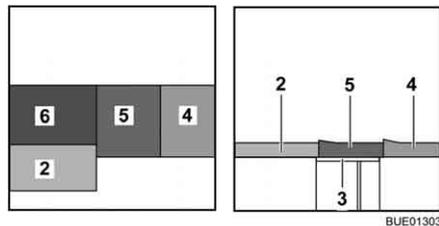

Fig. 120 After conversion
- Place the seat cushion (Fig. 120,5) in the centre.
- Place the back cushion (Fig. 120,4) between the seat cushion and the wall.